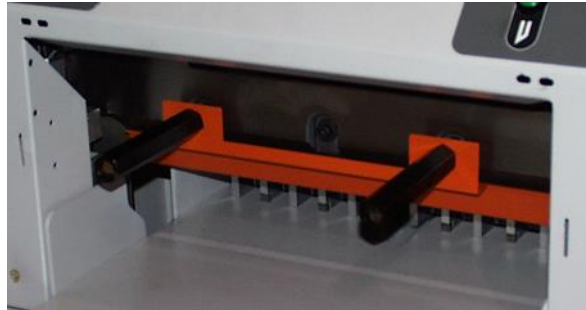

Figure 23
3. Remove the knife bolts from the two slotted knife bar holes and replace with the knife lifter assembly (Figure 23). Tighten the lifters to hold the knife in place, and then remove the remaining two knife bolts.